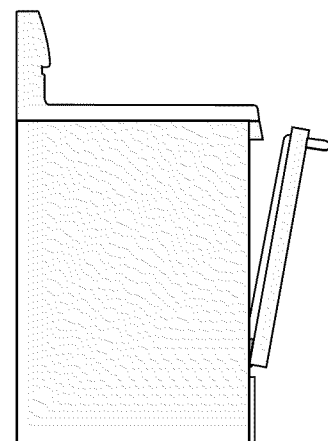

Fig. 2
2. Position cookware in oven. **Open oven door** to the broil stop position (See Fig 2).